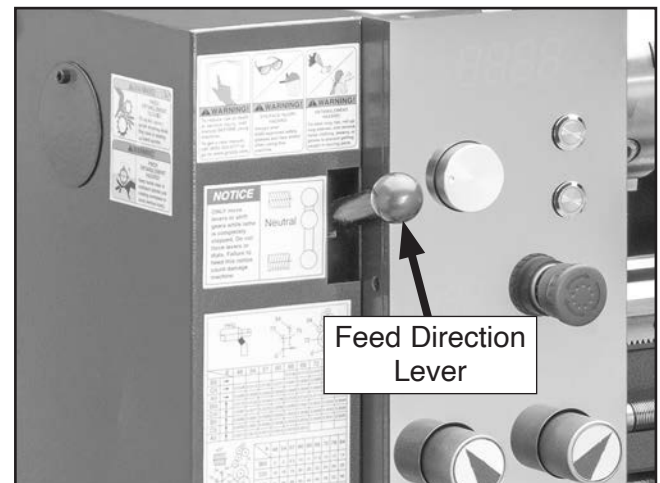

Figure 28. Feed direction lever in Neutral position.
5. To ensure carriage components do not unexpectedly move during following steps, move feed direction lever to Neutral position (see **Figure 28**).